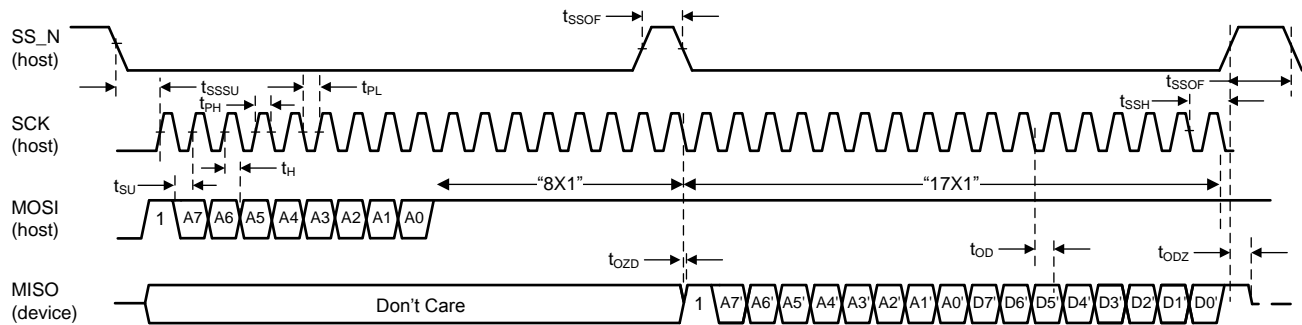

Figure 2. SPI Timing Parameters
(1) See Figure 2 for timing diagrams.